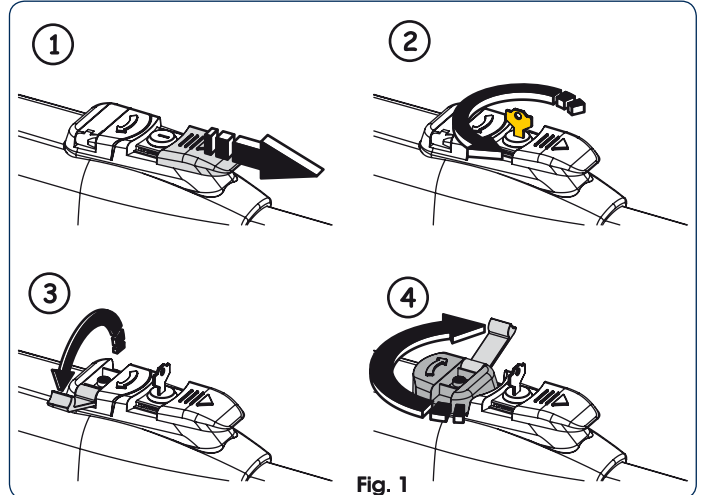

Fig. 1
2. Slide the protective cap, Fig. 1 - ①.
3. Insert the key and turn it 90°, Fig. 1 - ②.
4. Lift the control lever, Fig. 1 - ③.
5. To release the operator turn 180° the control lever to the direction indicated by the arrow on the release system, Fig. 1 - ④.